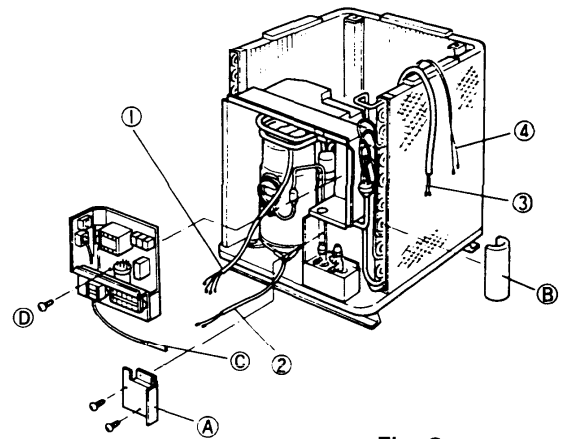

Fig. 8
- ① Compressor wire
- ② Crankcase heater wire
- ③ 4-way valve wire
- ④ Pressure switch wire
- ① Remove the cover plate **A**.
- ② Remove insulation **B**. Loosen and remove the sensor **C**.
3) The electrical component box can now be removed by unscrewing one screw **D**. Fig. 8